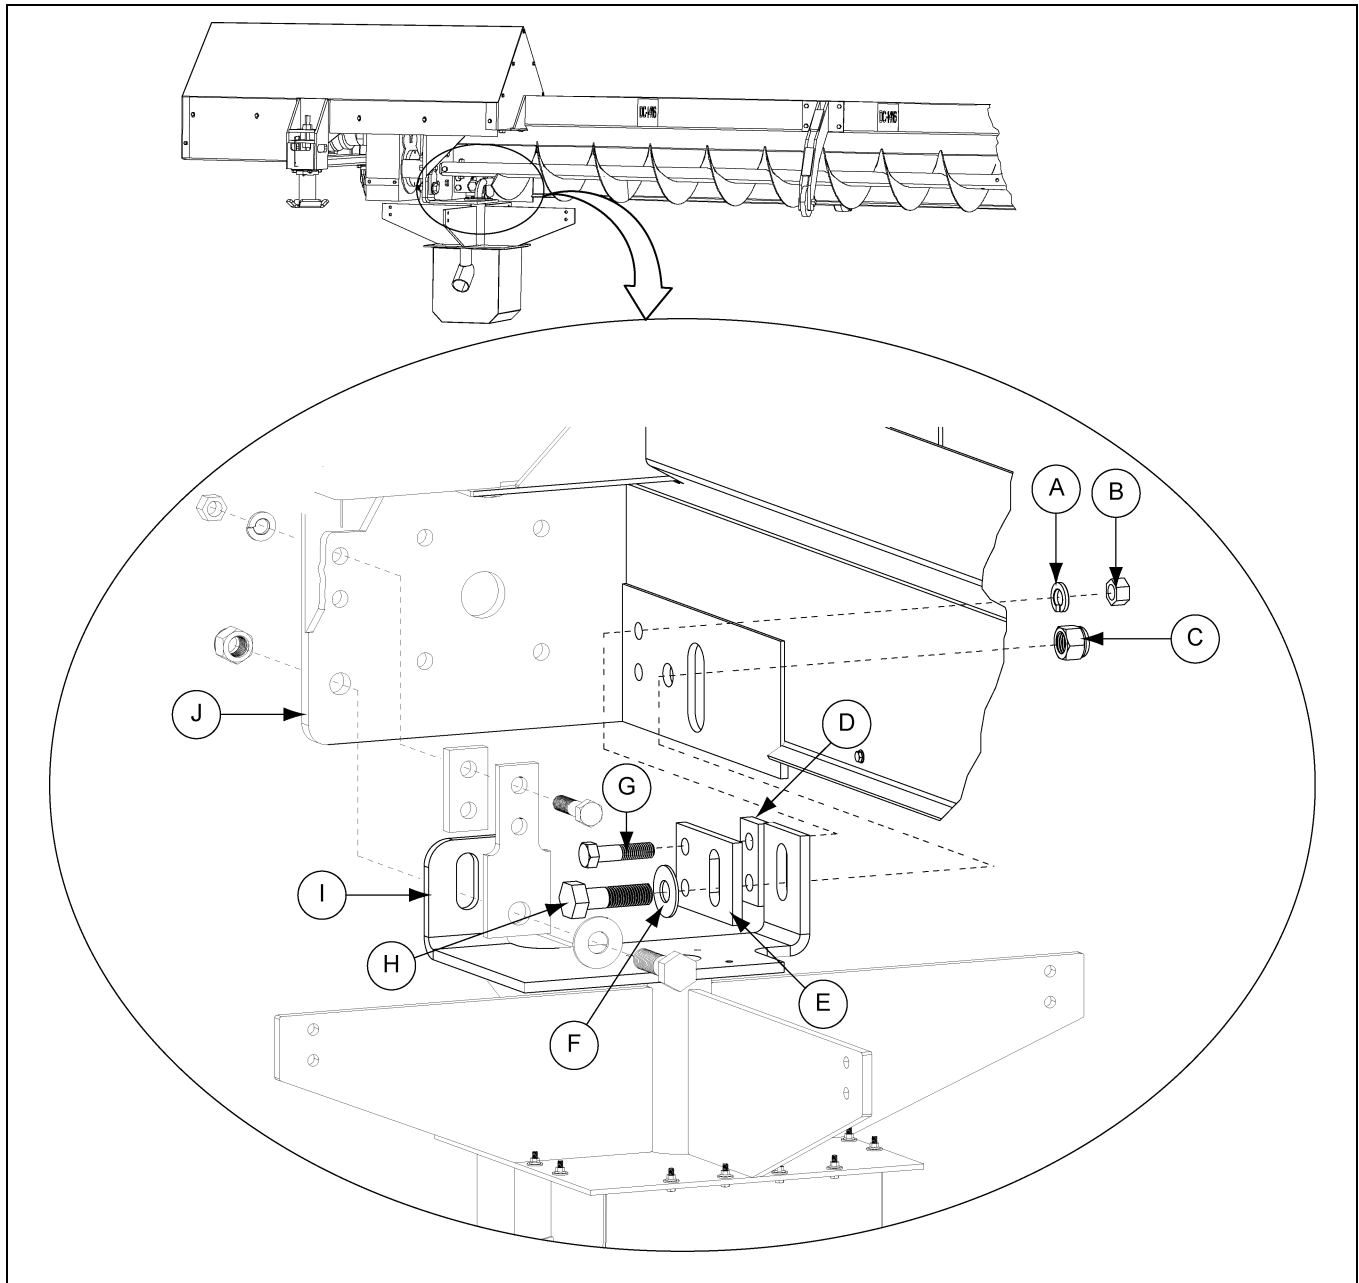

Figure 4L
1. Install sweep shield head section (J) to pivot plate (I) using hex bolts (G and H), flat washer (F), bracket (E), spacer (D), lock washer (A), lock nut (C) and hex nut (B). (See Figure 4L.)